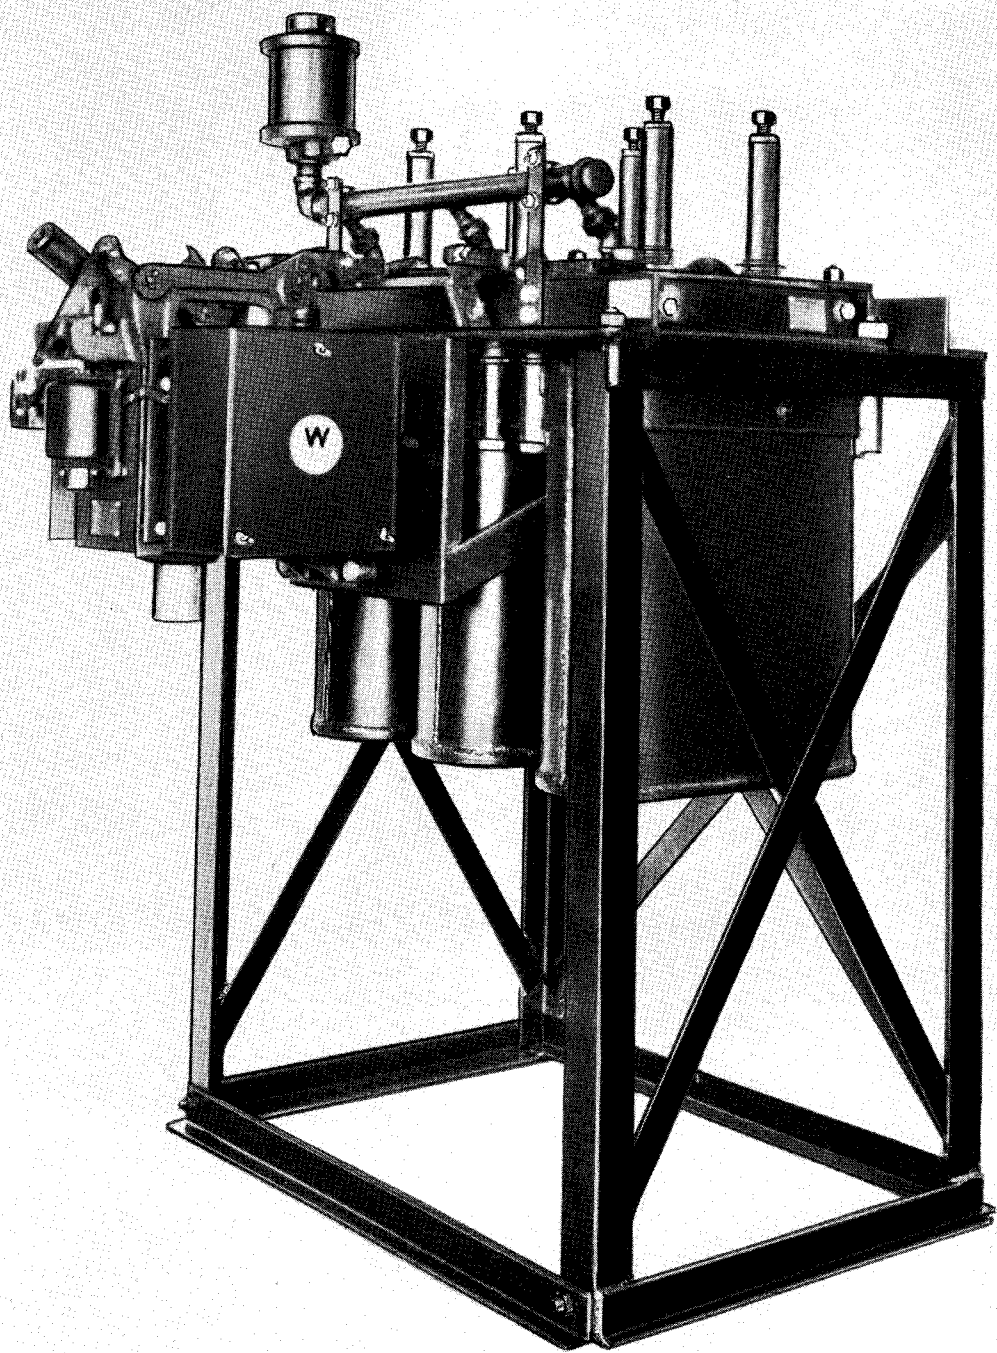

FIG. 1.—Type B-8-A Oil Circuit-Breaker, 600 Amperes, 13,800 Volts, Solenoid-Operated
10. With the tank removed, fill it with oil to within two inches of the top, or if more desirable, the excess oil can be drawn off through the drain valve after the tank has been bolted in place, Fig. 1.